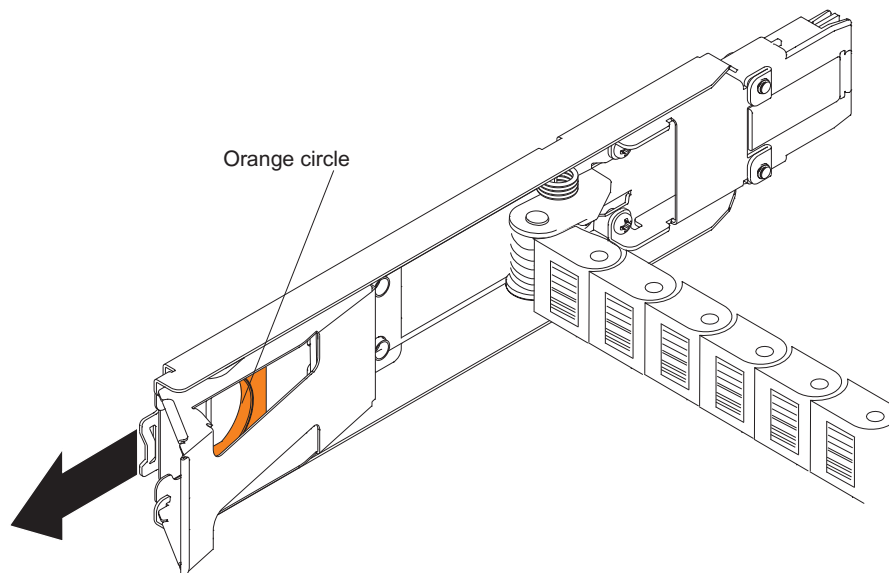

Figure 92. Vertical mounting bracket that connects to the midplane
- a. Disconnect the right cable chain mounting bracket from the midplane. Hold the orange handle (See Figure 92) and pull the mounting bracket out of the storage expansion enclosure. If necessary, use a flashlight to locate the orange circle.